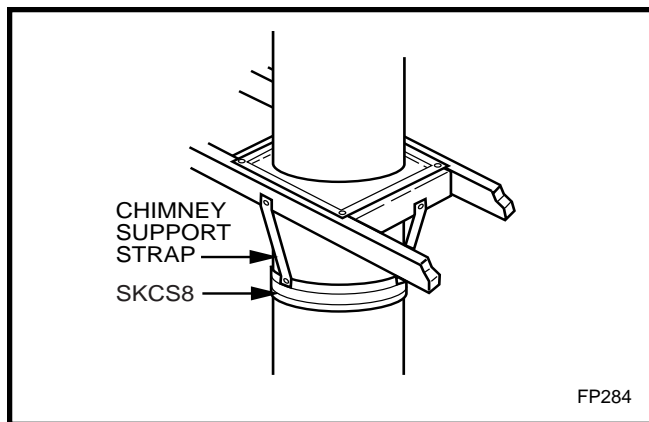

Fig. 9 Chimney support installation
Angled chimney runs require a support every six (6) feet in addition to the elbow straps. Chimney supports are used for this function. (Fig. 9)